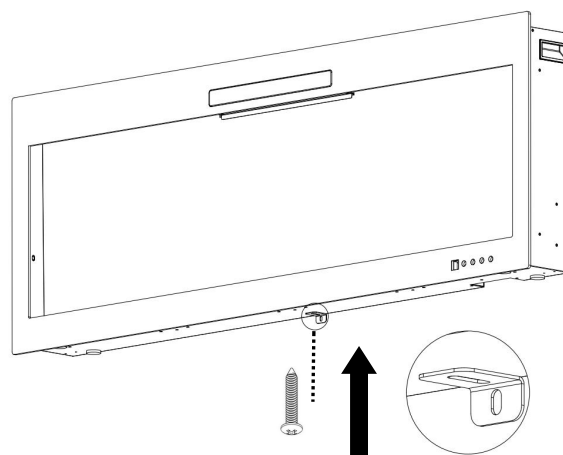

Fig 4-2
B. Using the screw previously removed, attached the L-bracket (supplied) to the bottom of the fireplace box. (Fig 4-2)